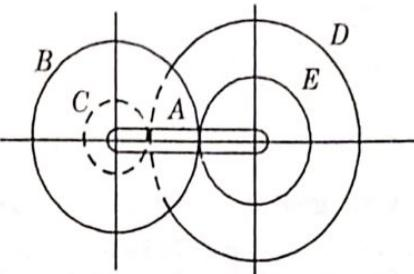

Fig. 2.31.1.
- From the geometry of Fig. 2.31.1